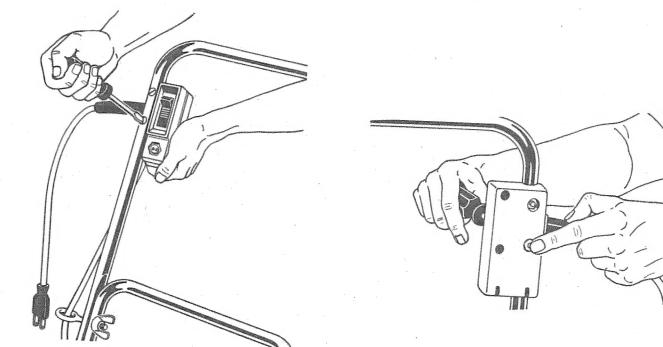

FIGURE 4
3. Attach switch box to upper handle as shown in Figures 4 and 5. Use two screws and hex nuts (Item "A," Figure 1).